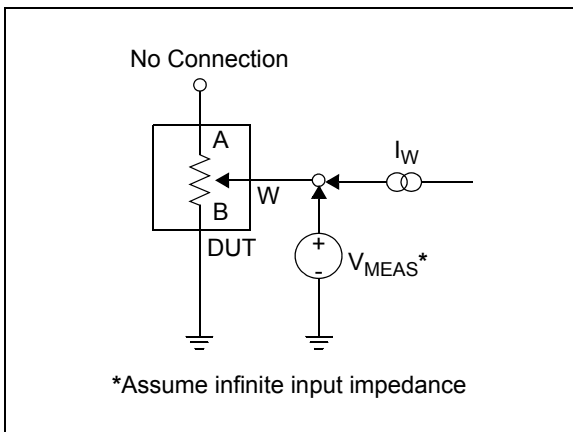

FIGURE 2-26: Resistor Position Non-Linearity Error Test Circuit (Rheostat operation DNL, INL).
- Rheostat position non-linearity R-INL is the deviation from an ideal value measured between the maximum resistance and the minimum resistance wiper positions. R-DNL measures the relative step change from the ideal between successive tap positions. $I_W = 50$ μA for $V_{DD} = 3V$ and $I_W = 400$ μA for $V_{DD} = 5V$ for 100 kΩ version. See Figure 2-26 for test circuit.